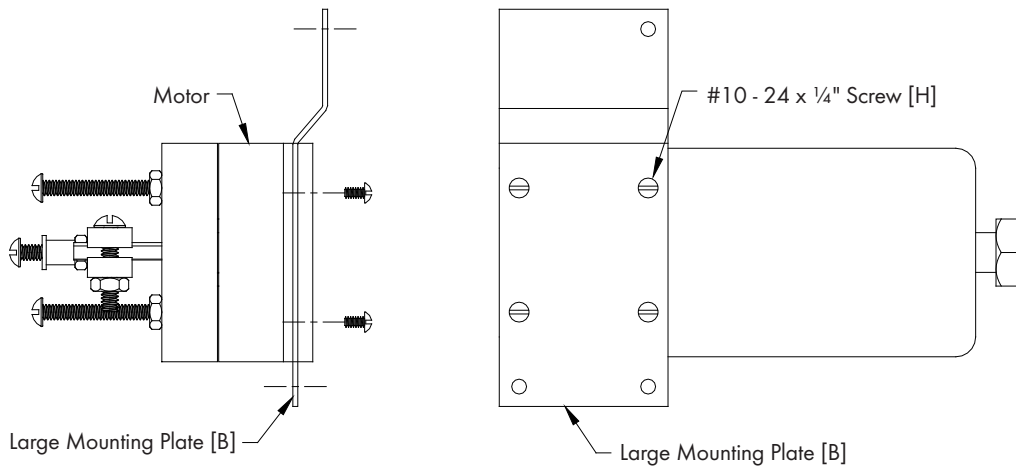

Figure 13
Fasten Large Motor Mounting Plate [B] to Motor using (4) 1/4" Screw [H]. See Figure 13.